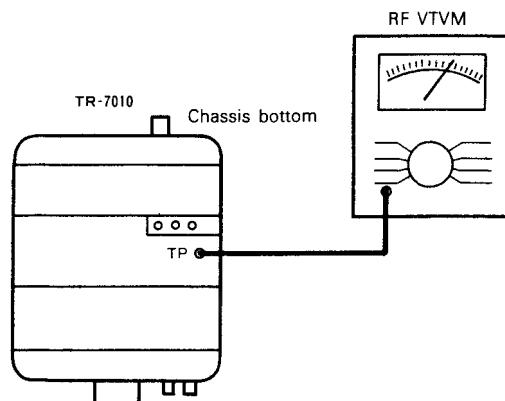
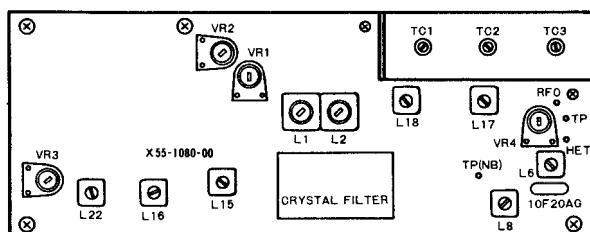

FIG. 14 RX, HET VOLTAGE SETTING
FIG. 15 RX UNIT
- (1) Disconnect all the measuring instruments. Set the channel indicator to "00" and the BAND switch to 144.2MHz.
- (2) Connect RF VTVM to the TP terminal on the RX unit (see Fig. 14 and Fig. 15).
- (3) Adjust VR4 on the RX unit until the voltage reaches 0.3V.
- Adjust VR2 on the RX unit (Fig. 15) until the S meter indicates the exact "0" position.
- Slowly decrease the input from SSG and obtain a maximum reading on AF VTVM by adjusting L1 → L2 → TC3 → L6 → L8 → L15 → L16 → L22 on the RX unit (Fig. 15). This adjustment should be repeated several times.
- (1) Disconnect the noise generator and tune in to the signal of SSG. Adjust the VXO volume for maximum deflection of the S meter (preferably for "5" position on the meter scale).
- (2) Next, adjust VR3 in the balancing detector of the RX unit (Fig. 15) for minimum deflection of the S meter.
- (3) With the SSG output set to 20dB, adjust VR1 until the S meter indicates the "9" position.
- (4) Set the SSG output to 0dB. If the S meter reading is more than "3", turn L16 clockwise until the meter indicates between "2" and "3". After turning L16, check the Step (3) above and when the meter indication is deviated, then readjust VR1.